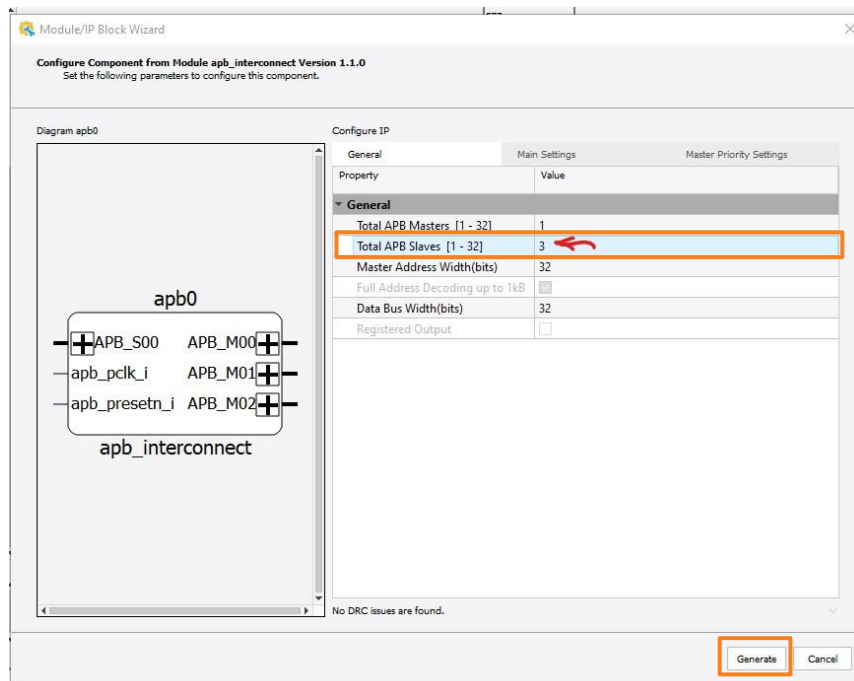

Figure 3.12. Propel Builder – Adding Slave to APB
- To connect the I²C Master to the SOC we need to add a slave connection to the APB Interconnect. Double-click on the APB component to change the Total APB Slaves from 2 to 3, as shown in Figure 3.12 then click **Generate**.